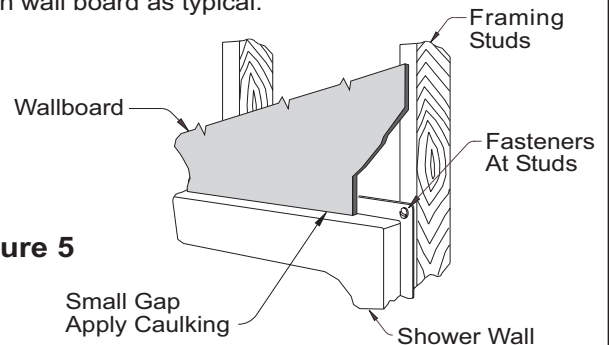

Figure 5
11. Install wallboard along unit. Wallboard should be installed so it covers the mounting flanges and mounting screws or nails. **See Figure 5**